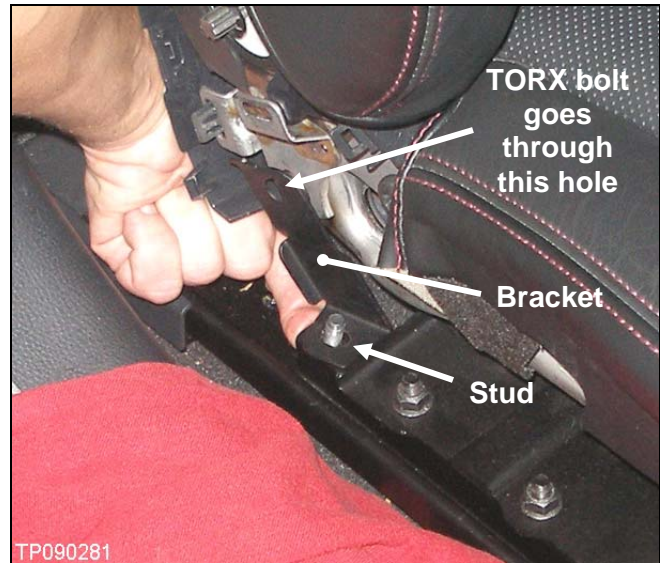

Figure 5
2. Pop the stud (supplied with the seat bracket) through the hole at the rear of the Outboard (O/B) track from underneath, and then hold it in place (see Figure 5).
3. Position the bracket with the stud through its lower hole, and then install the nut and new TORX bolt finger tight (see Figure 5).